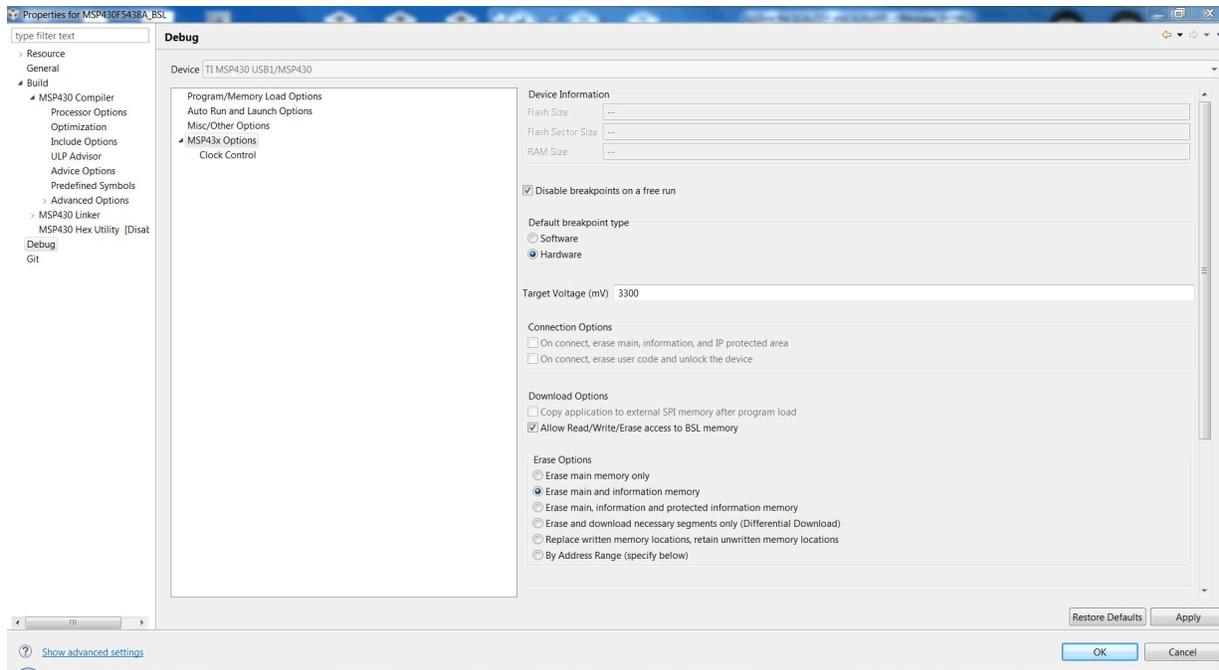

Figure 13. Debug Setup
- a. After the project is imported, go to the Project Properties, and configure the programming setup (see Figure 13).
- b. As Figure 13 shows, select Debug → MSP43x Options. Under "Download Options", select "Allow Read/Write/Erase access to BSL memory". Under "Erase Options", select "Erase main and information memory".